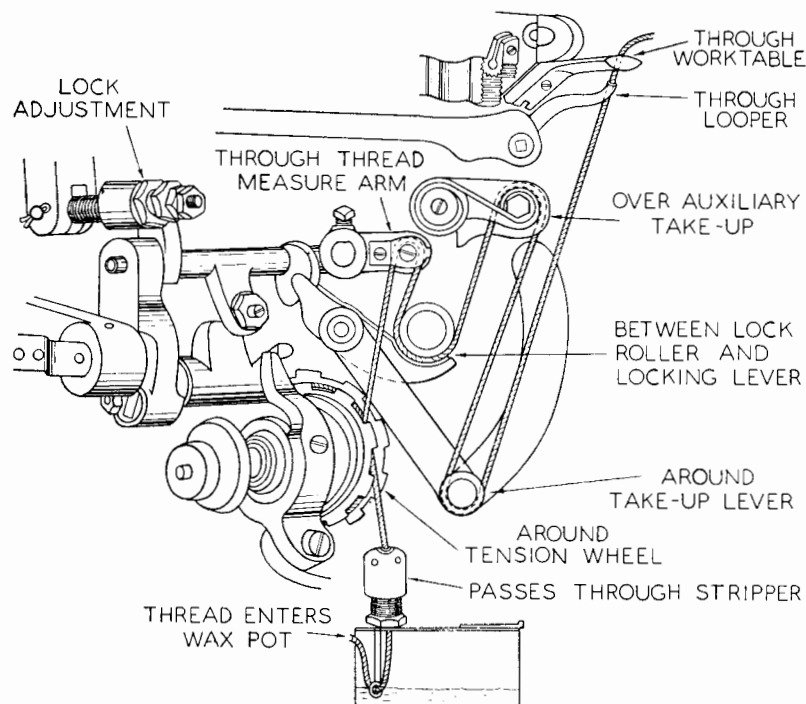
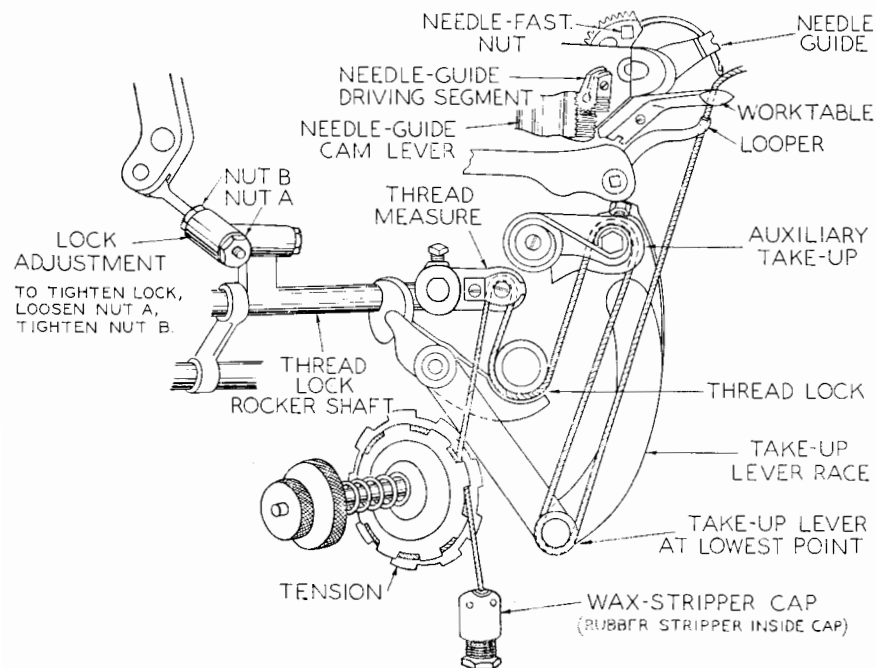

Fig. 270. Curved-needle stitcher. Threading the machine.
Fig. 271. Parts, locations, and duties of curved-needle stitcher.
Anyone who is interested in learning shoe repairing must also learn how to operate the curved-needle machine, by means of which soles are stitched to the shoe (Fig. 270). Many new workers approach this machine with fear, which, however, is uncalled for, because it is simple to operate. All that is required of the operator is the steering of the shoe. The beginner should place a shoe in position in the machine as though he were getting ready to sew. The shoes should be left in this position and the operator should view it from a short distance. This will give a good perspective of how little he is required to do. The machine not only holds the shoe, it does everything but turn the shoe.
1. Before placing the shoe in position, turn the handwheel until the *take-up lever* (Fig. 271) reaches the top of the stroke. At this point
1. To release the needle, turn the handwheel until the needle-fastening nut, Figure 271, is visible immediately behind the bobbin case (Fig. 281).
1. Turn the handwheel until the take-up lever is at its lowest point (Fig. 271).
3. To adjust, see the extreme left hand of Figure 271. Loosen nut *A*, and tighten up on nut *B*, until the proper adjustment has been made. Use caution or you may pinch the thread or jam the machine. In either case, reverse the procedure. (For another model, see Fig. 270).
1. Should wax be drawn up, screw down the stripper cap shown at the bottom of Figure 271.
**Thread Measure.** This mechanism (Fig. 271) is set at the factory to measure out the thread automatically for the different weights of soles. It seldom gets out of adjustment and should, therefore, not be tampered with unless *proven* to be at fault. Should adjustments become necessary,